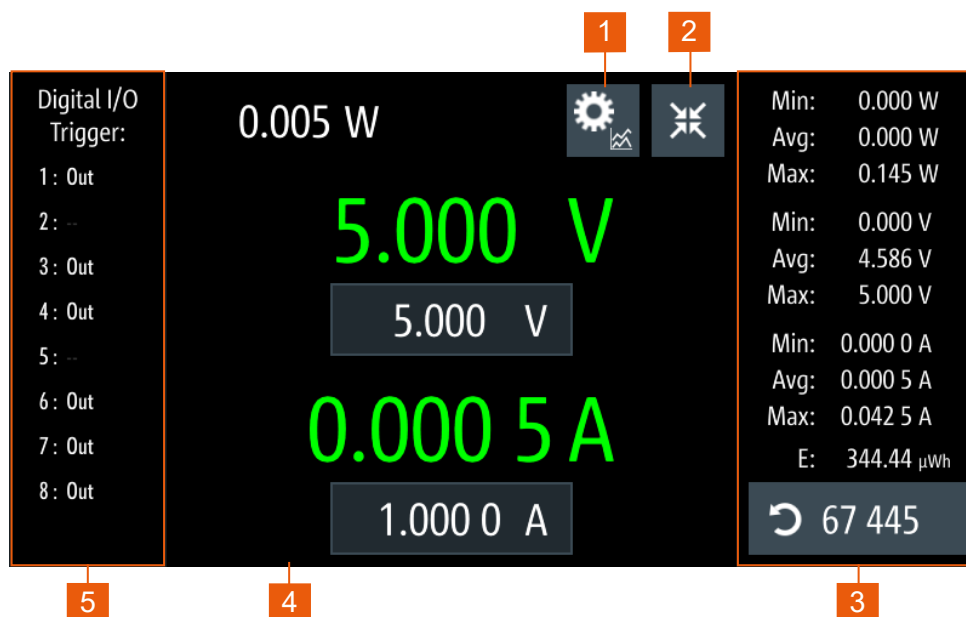

Figure 3-11: Detailed channel display window
The "Expand/Collapse" softkey, , opens/closes the detailed channel display window which provides additional information, such as the channel historical information and the optional digital I/O trigger configuration. See Figure 3-11.
- 2 = "Expand/Collapse" softkey toggles between home window and the detailed channel display area window, see Figure 3-11